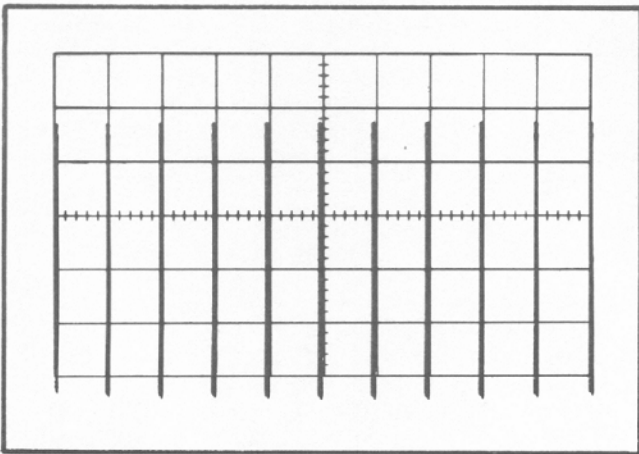

Fig. 6-52. Typical CRT display showing correct 0.5-microsecond timing.
63. Adjust A and B 0.5 Microsecond Timing ①
- c. CHECK—CRT display for one marker each division between the first- and ninth-division vertical lines (see Fig. 6-52).
- f. CHECK—CRT display for one marker each division between the first- and ninth-division graticule lines (see Fig. 6-52).